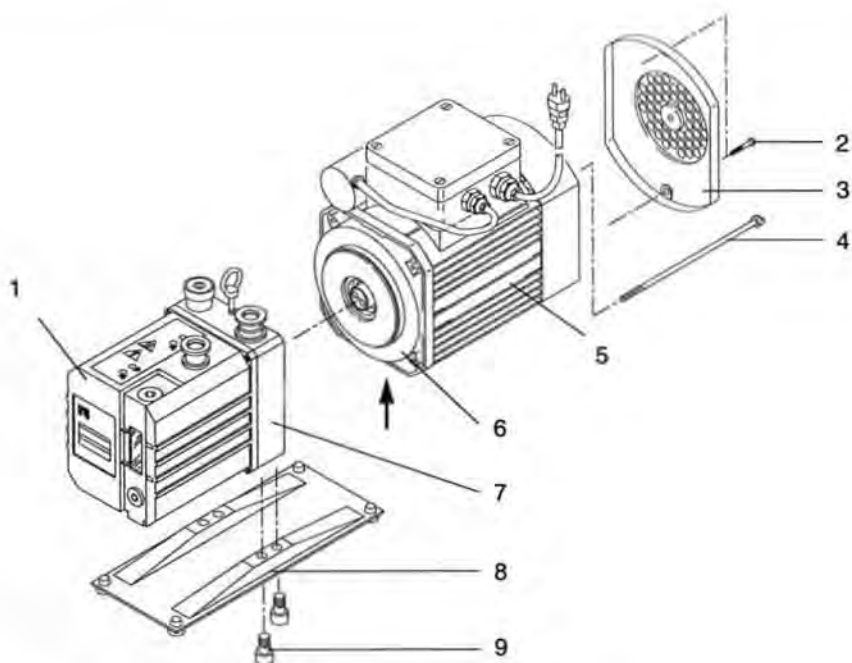

Fig. 8 Disassembly and assembly of the electric motor
**Key to Fig. 8**
**Caution** Especially note the position of the oil ejection hole (see arrow in Fig. 8) in the end plate A. The hole must always lead downward.